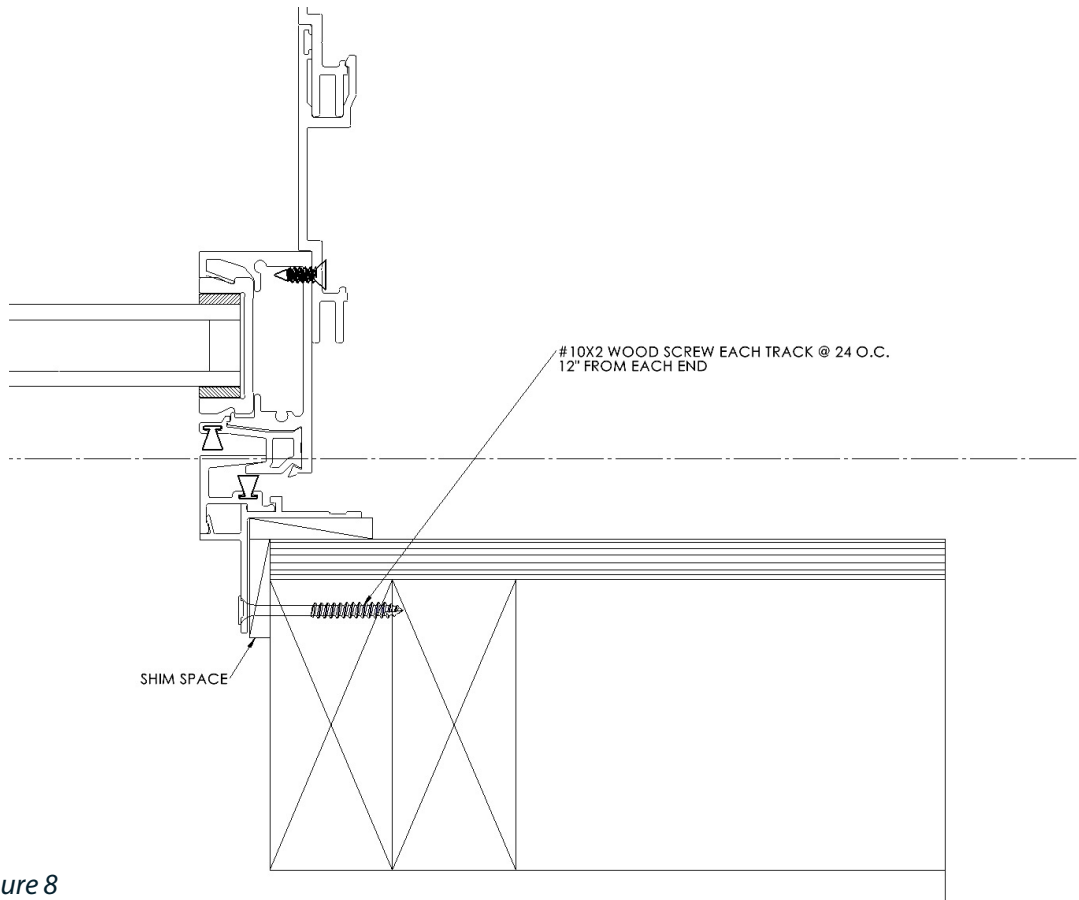

Figure 8
- Complete the installation of the post interlock frame members by shimming between the nail fins and the structure as required to ensure they are plumb. Check the dimension between the inside and outside members from top to bottom to ensure that they are parallel. Anchor the members using #10 X 2.5" flathead screws. It is critical that the post interlock frame members are plumb and square to the head and threshold, and parallel to each other, to ensure smooth and quiet operation as the pocket panel interlock engages the post interlock. Un-snap the "hook" portion of the post interlocker on the side that will engage the pocket panel, so that the pocket panel will have room to enter the pocket. The "hook" on the other post interlocker can stay in place. See **Figure 8**.